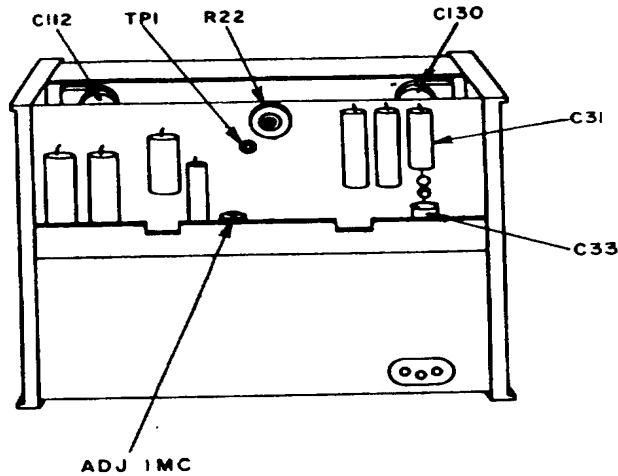

Figure 2. Oscillator - rear view.
(1) Press **1.00 FREQUENCY DIGITS** pushbuttons and **X100 KC MULTIPLIER** pushbutton.
(2) Connect true rms voltmeter to **TP1** and junction of **C31** and **C33** (fig. 2).
(3) Adjust **C112** and **C130** alternately for frequency counter indication of 100.2 kHz and true rms voltmeter indication of 115 mV (R).
(4) Press **9.00 FREQUENCY DIGITS** pushbuttons and adjust **ADJ 1MC** (fig. 2) for frequency counter indication of 902 kHz (R).
b. Adjustments. Adjust **R22** (fig. 2) for minimum distortion as indicated on audio analyzer (R).